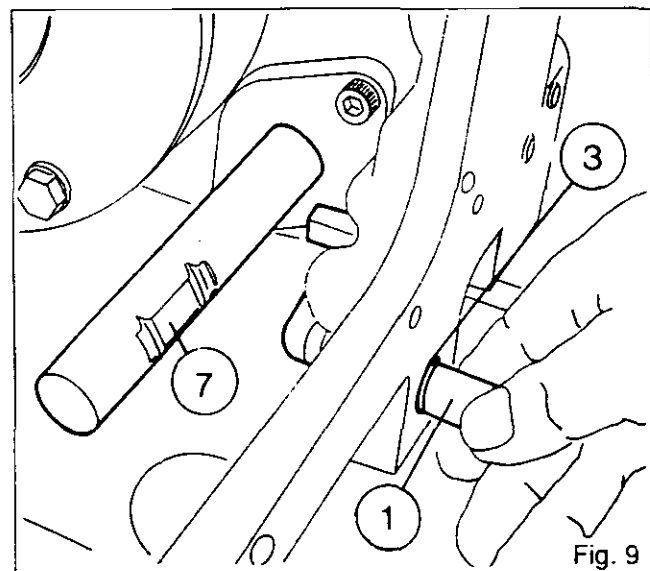

Fig. 9
18. To remove the creeper gear control shaft (1), turn it so that it goes under the selector rail (7) (Fig. 9). Discard the 'O' ring (3).